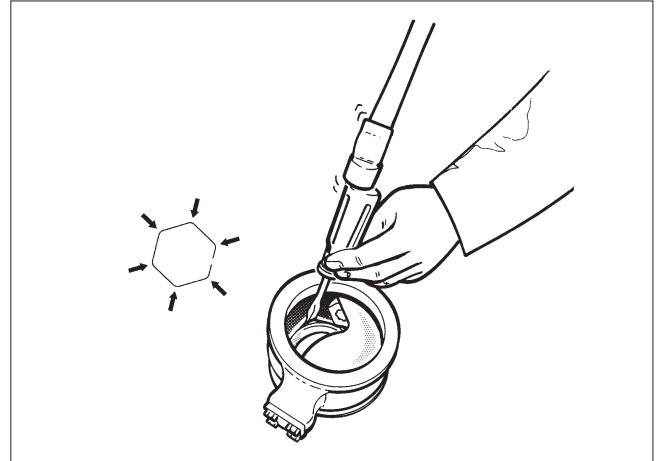
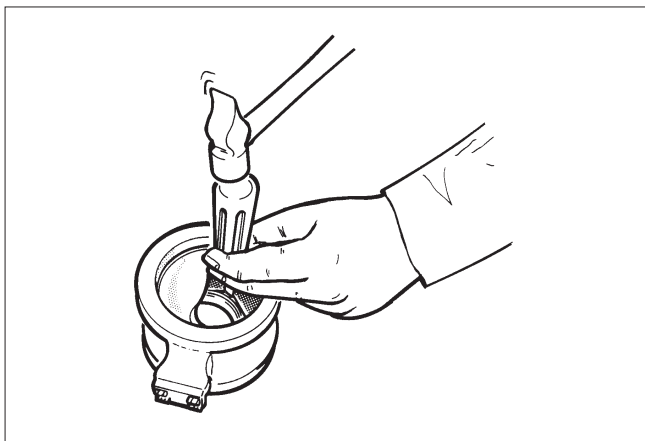

Fig. 19 Knocking the spring into the groove
Fig. 20 Knocking the spring after turning the seat around
- Place a screwdriver on each visible spring angle one after the other and knock the spring into the groove, see Fig. 19.
- Turn the segment 180° clockwise and knock the rest of the spring angles into the groove, Fig. 20. A special tool available from the manufacturer may also be used for the work phases in Figs. 19 and 20.